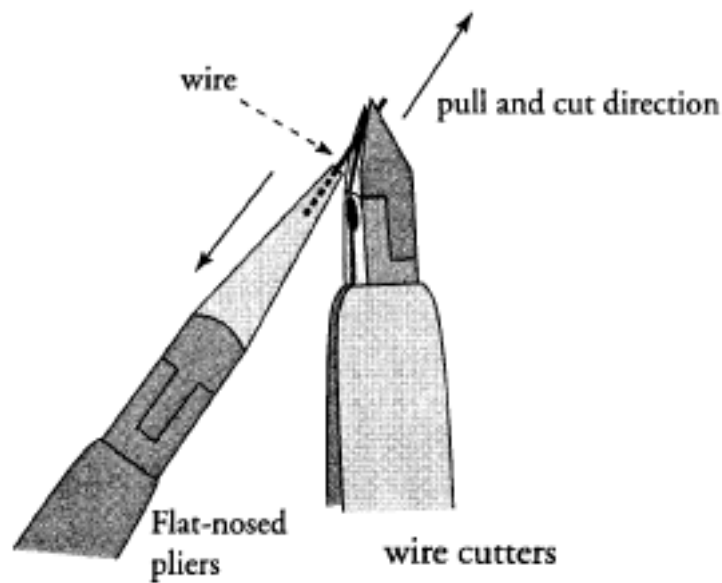

Figure 4
4. Close the cutter until you can feel the wire, then in the tilted direction shown on figure 4, pull and cut at the same time. The tip needs to be torn off rather than cleanly cut off to get a sharp end.